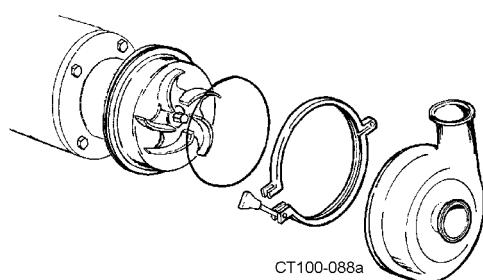

Figure 50 - Remove Casing Clamp, Casing and O-ring
2. Remove the casing clamp, casing, and O-ring from the housing flange (Figure 50).